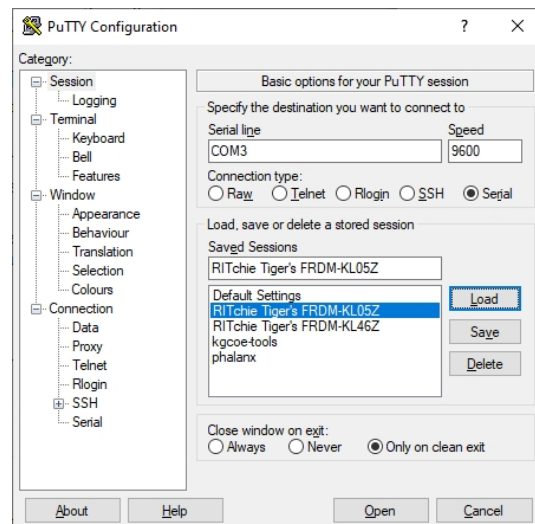

Figure 14. PuTTY Configuration window
- a. Click the  start menu icon at the left of the Windows task bar, and then scroll through the list of program to select  PuTTY. The PuTTY Configuration window will then open, as shown in Figure 14.
- b. On the default initial PuTTY Configuration window, (i.e., Session selected for Category in the left pane), under Connection type in the upper right side of the window, select Serial, as shown in Figure 14.
- c. Edit the Serial line field just above Connection type to show the COM port number Windows assigned to the FRDM-KL05Z that was noted in step 2.d.v on p. 5, (e.g., COM3 in Figure 14).
- d. (Optional) Save the session settings by typing a name for this session in the **Saved Sessions** in the middle of the window, and click the **Save** button to the right. For example, the settings in Figure 14 have been saved as **RITchie Tiger's FRDM-KL05Z**.